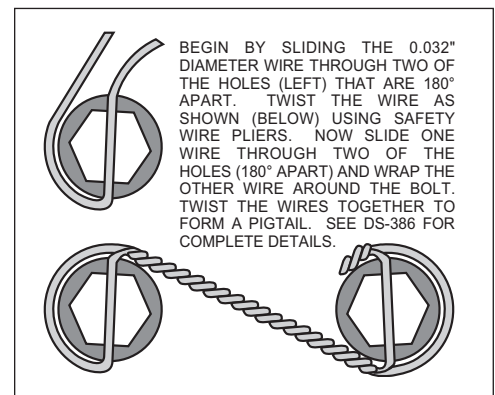

Figure 4. Safety Wire Diagram
- Apply red *Loctite*® 271 to bolt threads (3) before assembly of the caliper mounting bracket (1). Mount bracket (1) to face of spindle using washers (2) and bolts (3). Torque bolts to 35 ft-lb. **NOTE:** Be sure the heads of the bracket clinch nuts are facing outboard.
- Install wheel studs (4) into the hub (5). Torque to 77 ft-lb.
- Pack the large inner bearing cone (6) with high temperature disc brake bearing grease (available from your local auto parts store) and install into the backside of the hub (5). Install the grease seal (7) by pressing into the backside of the hub (5).
- Pack the small outer bearing cone (8) with high temperature disc brake bearing grease and install into front of hub (5). Slide the hub with outer bearing cone (8) onto the spindle. Secure using stock washer, adjusting nut and nut locking device. Adjust bearings per Original Equipment Manufacturer (OEM) specifications.
- Install the dust cap (10) onto the hub (5). Friction created by the o-ring (9) on the dust cap (10) keeps it from unscrewing. The O.D. of the existing spindle washer may be larger than the I.D. of the dust cap (10) not allowing it to seat against the hub face. Some grinding on the washer O.D. may be necessary to clear the I.D. of the dust cap (10).
- With the larger I.D. side of the rotor (11) facing away from the hat (12), bolt rotor (11) to hat (12) using washers (13) and bolts (14). Torque bolts (14) to 85 in-lb. Safety wire bolts (14) using standard 0.032 inch diameter stainless steel safety wire as shown in Figure 4. Please refer to Wilwood's data sheet DS-386 (available at www.wilwood.com/pdf/ds386.pdf) for complete safety wire installation instructions.